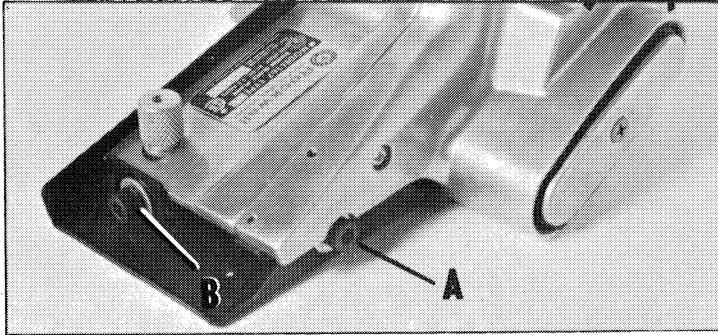

Fig. 3
2. Loosen cutter adjustment lock screw (A) and depth adjusting bracket lock screw (B) Fig. 3.